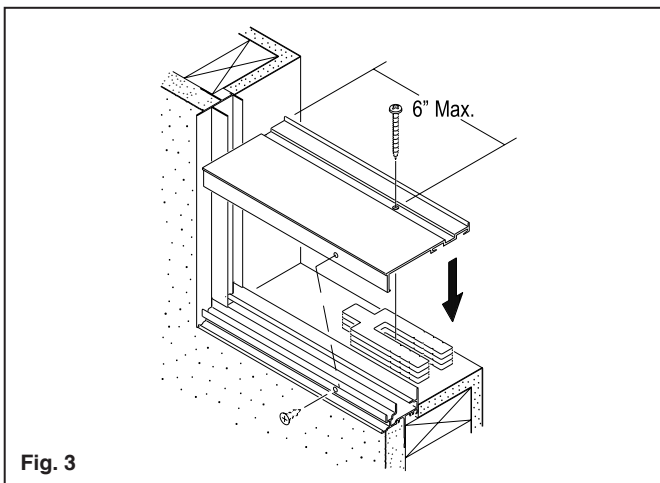

Fig. 3
B. Horse Shoe shims or equal, are needed to support the Sill Plate at installation screw locations. Make sure Sill Plate is straight and level prior to fastening. Screws should be no more than 18" apart on center, with corner screws approximately 6" from jambs. See Fig. 3. Use #8 x 2" Phillips sheet metal screws. Length of screw may vary per job condition. Screws must be long enough to secure Sill Plate to existing wood sill. Anchor the exterior leg of the Sill Plate to the existing sill with #6 x 1/4" Phillips flat head sheet metal screws. Seal screw heads with an appropriate sealant after installing.